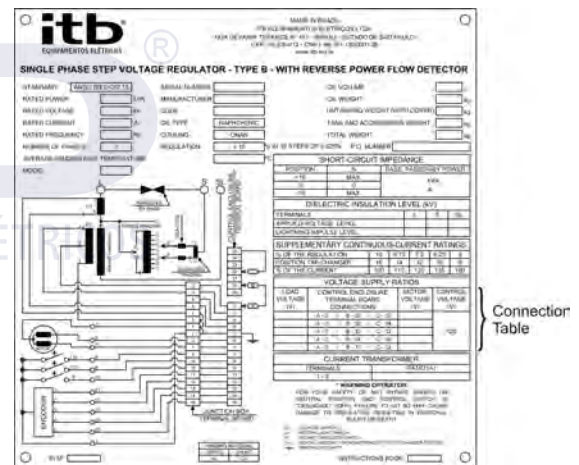

Figure 11: Nameplate
- Check if the connections of the voltage transformer is suitable for the voltage of the network as indicated in nameplate as shown in Figure 11.
The nameplate indicates the proper connection of the terminals "A", "B" and "C" which will be different for each applicable system voltage as shown highlighted in Figure 11.